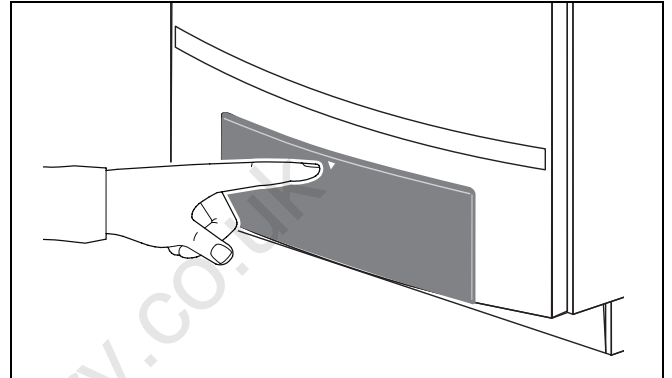

fig. 20 Opening the control panel
- Push on the control panel to open it (fig. 20).